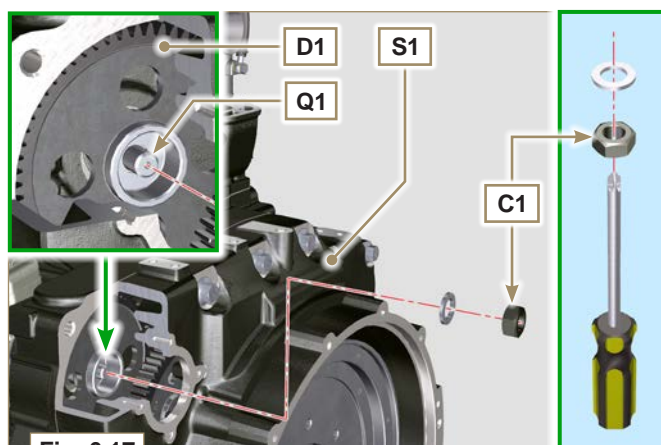

Fig. 6.17
- 4 - Ensure that the correct advance value has remained unchanged, tighten nut **C1** on shaft **Q1** (as shown in Fig. 6.17, you are allowed to use a screwdriver to guide nut **C1** onto shaft **Q1** in order to prevent it from accidentally falling inside carter **S1** - tightening torque at **140 Nm**).